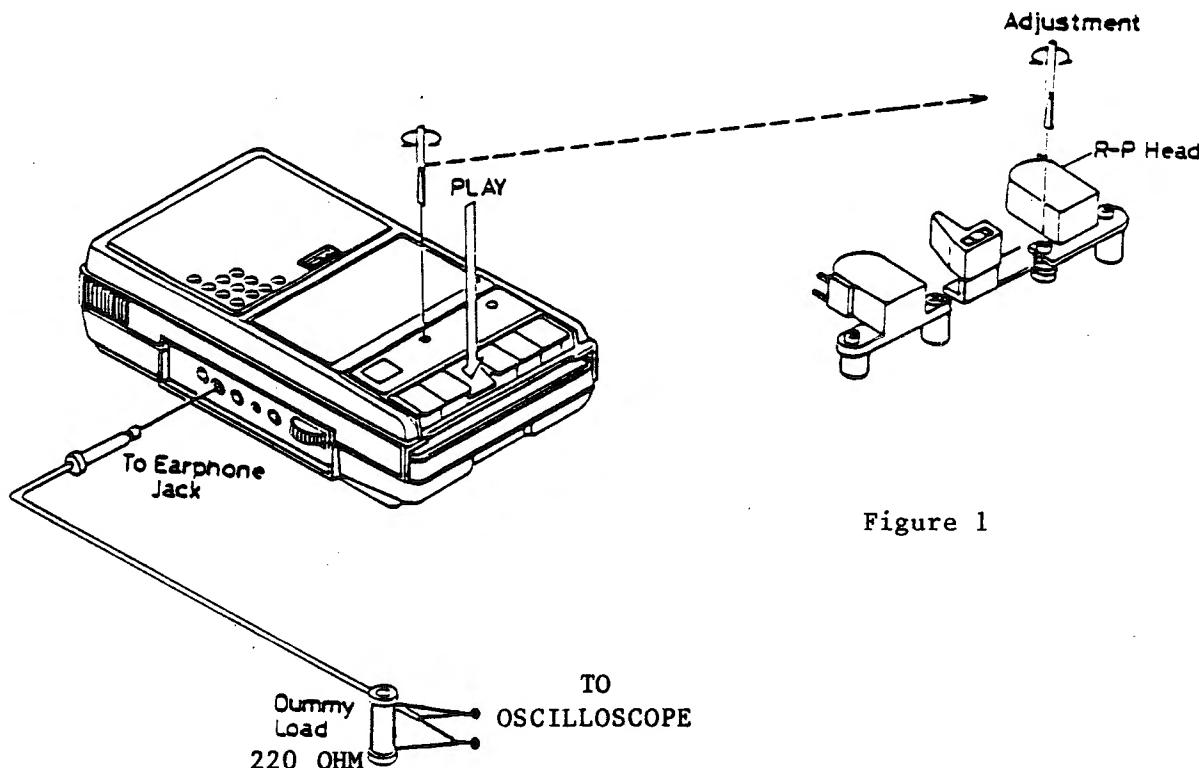

Figure 1
- 2. Insert mini-jack plug with 220 ohm resistor across shield and center wire. (See figure 1)
- D. If recorder is out of tolerance insert small screwdriver through the hole on top of the recorder (may have to open recorder) and adjust to obtain equal amplitude readings from both sides of the tape. (See figure 1)